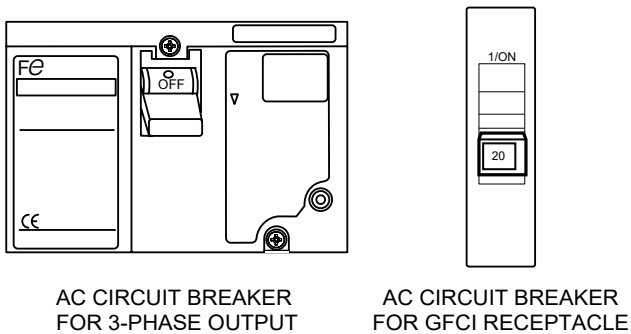

Figure 26. 3-Phase and GFCI Circuit Breakers (OFF)
1. Place the **3-phase and GFCI** circuit breakers (Figure 26) in the **OFF** position.